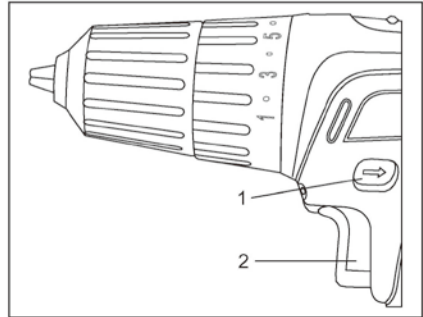

Fig. 6
The forward/reverse switch (1) is conveniently mounted above the trigger switch (2) (Fig. 6). To make the drill rotate clockwise for drilling or driving screws, push the forward/reverse switch to the left. To make the drill rotate counter-clockwise for removing screws, push the forward/reverse switch to the right.